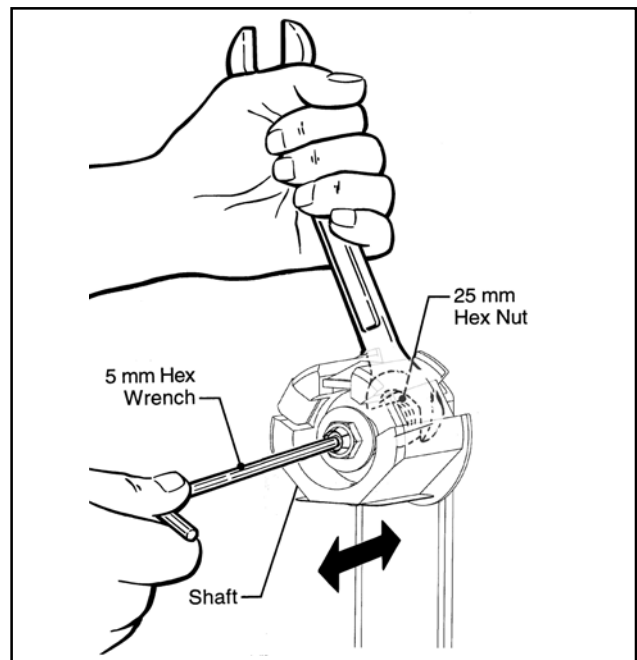

Figure 5-2—Tape Web Alignment
To adjust or center the tape width on the centerline of the taping head and the box center seam as shown in Figure 5-2, do the following:
2. Using a 5 mm hex wrench, turn tape drum shaft in or out to center the tape web as shown in Figure 5-2.